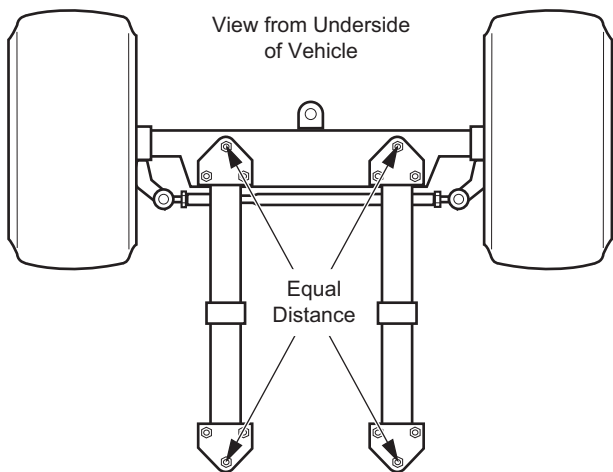

Figure 7 Front Axle Alignment
2. Confirm the alignment of the front springs (Ref. Figure 7).
1. Measure the distance from the center bolt at the rear of the left spring to the center bolt at the front of the right spring (Ref. Figure 7).